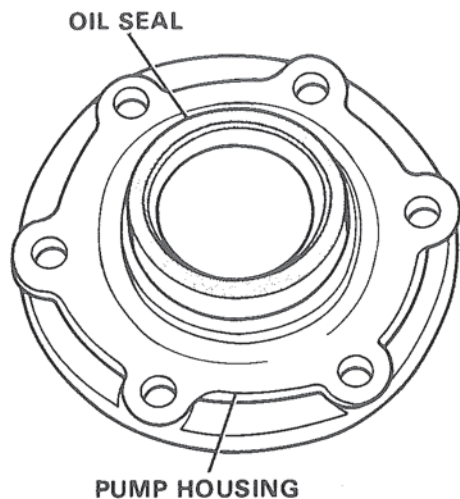

Figure 105. Installing Oil Seals.
2. Place pump housing squarely on arbor press table. Apply a suitable sealant to the outside diameter of seal before installing squarely into bore of housing with seal lip positioned as shown in Figure 105. Caution should be observed to insure that too much sealant is not used, that any excess is wiped away after the seal is installed, and that the sealant does not get on the sealing element.